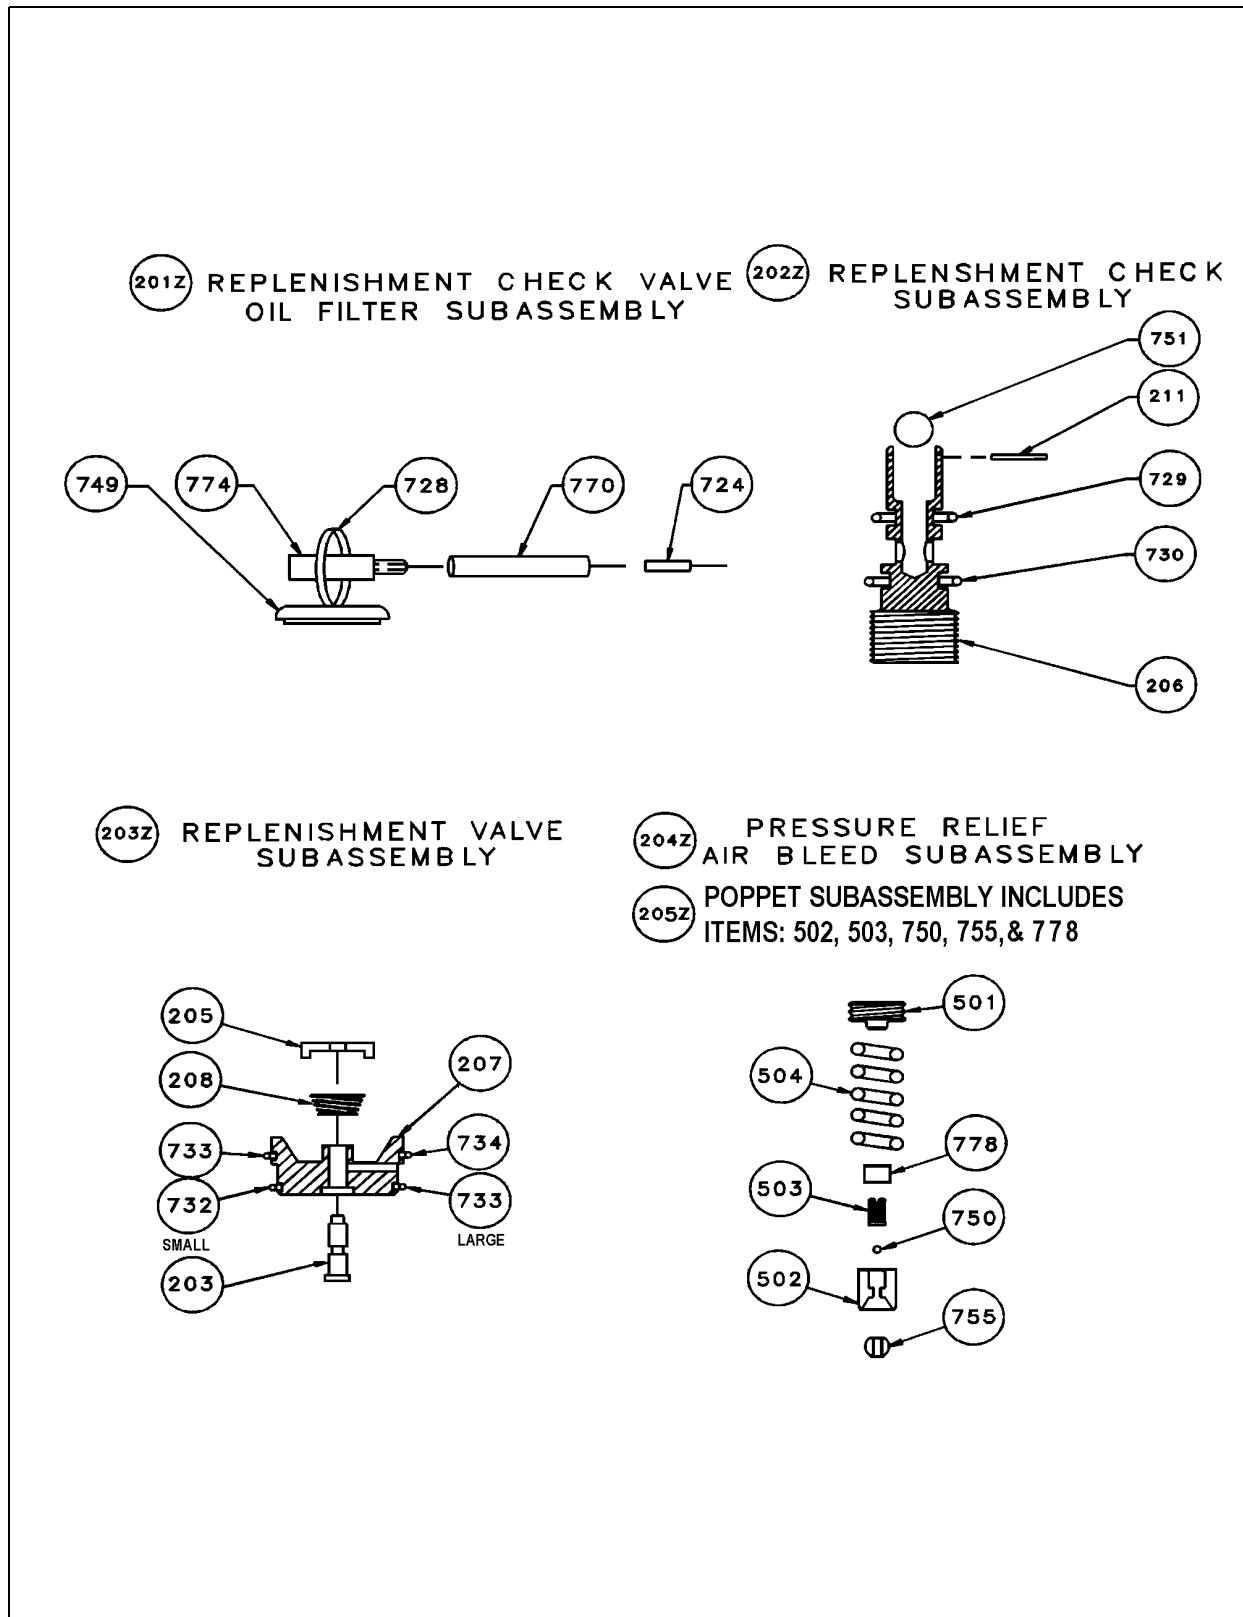

Figure 54. Plunger Body Internal Hydraulic SubAssemblies, Size B & C.
6.20 PLUNGER BODY INTERNAL HYDRAULIC SUBASSEMBLIES, SIZE B & C (FIGURE 54)